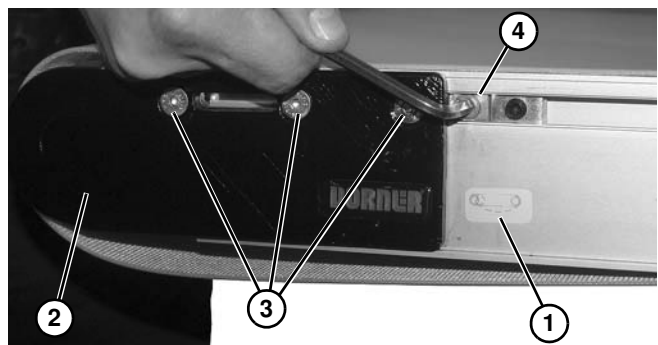

Figure 59
2. For standard end drive conveyors, on tension end of the conveyor, identified with  a label (**Figure 59, item 1**), adjust head plate assembly (**Figure 59, item 2**):
- a. On both sides of conveyor, loosen fastening screws (**Figure 59, item 3**).
- b. On both sides of conveyor, adjust cam tracking assemblies (**Figure 59, item 4**) (if equipped) to adjust head plate assembly.
4. After adjusting proper tensioning, tighten fastening screws (**Figure 58, item 3**) or (**Figure 59, item 3**) on both sides of conveyor to 7 Nm.